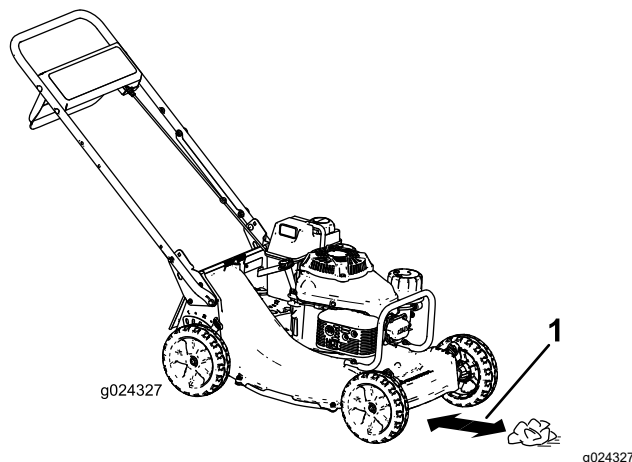

Figure 16
4. Place the newspaper ball about 13 cm (5 inches) in front of the machine (Figure 16).